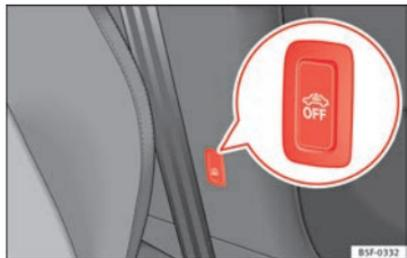

Fig. 61 Interior monitoring button.
- To switch off the vehicle interior monitoring, switch off the ignition and press button ⇒ Fig. 61. The indicator on the button will light up.